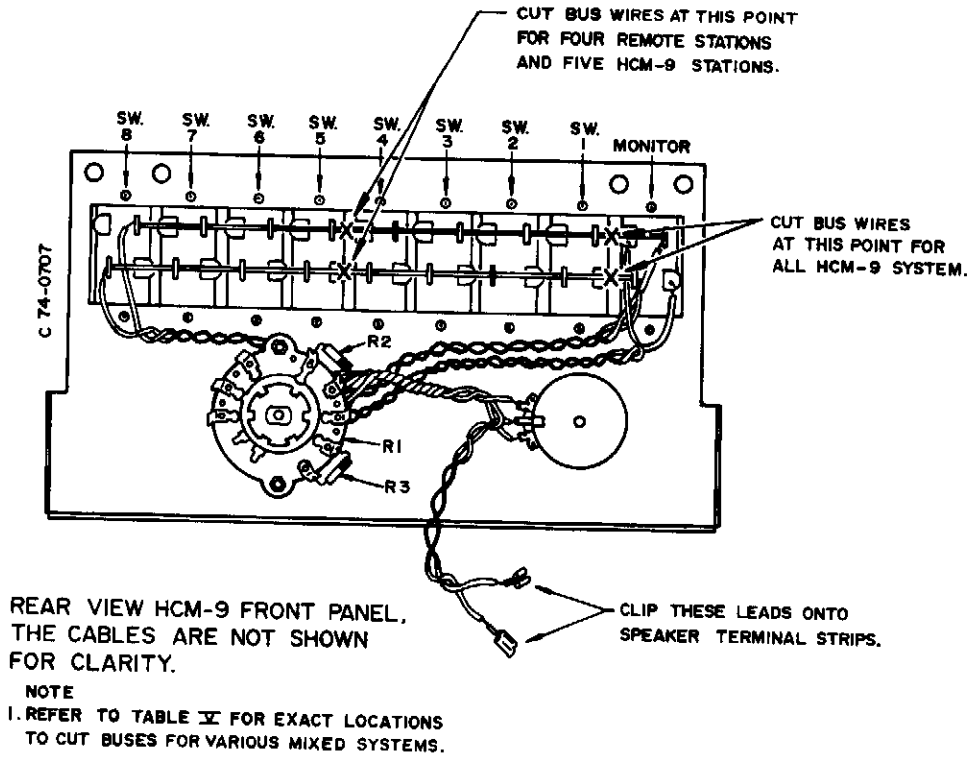
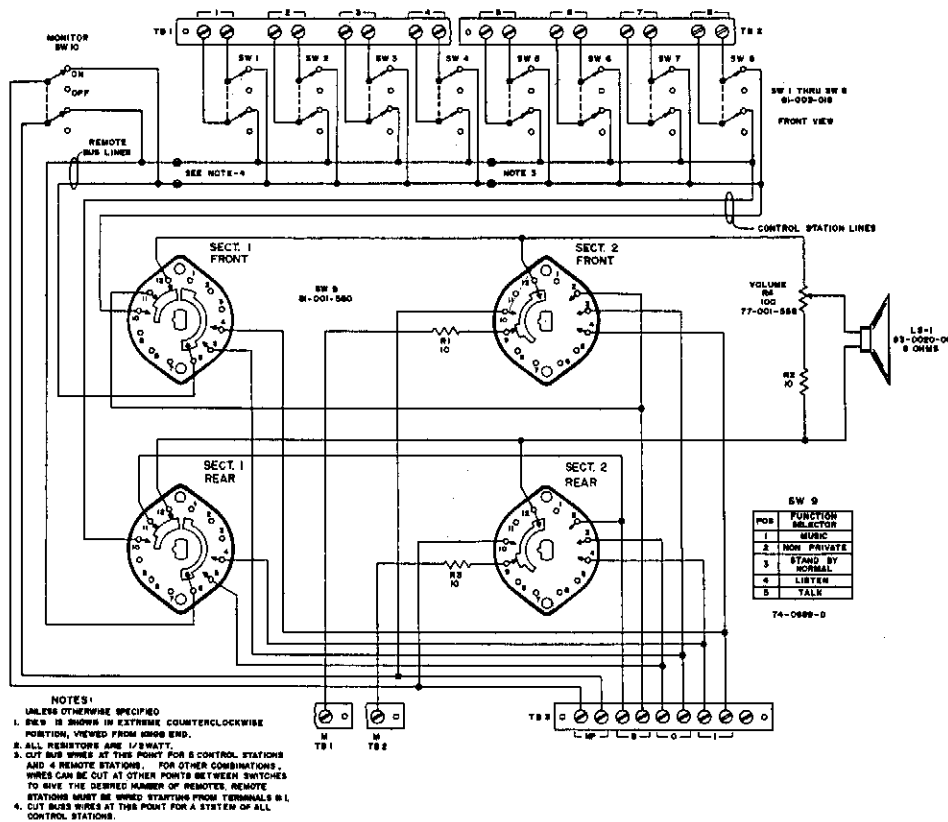

Figure 5 - Model HCM-9 Control Station, Modification Procedure
Figure 8 - Model HCM-9 Control Station, Schematic Diagram
b. STAGGERED CONNECTIONS: Terminals "B" are the connections for the "break-in" line and these terminals are used at every control station. Terminals B are connected to the line for the given control station (see figure 5 and refer to Table III). For example, at control station 5, the B terminals are connected to the twisted pair which goes to every other control station's terminals 5. Therefore when any other control station places the selector switch for station 5 in the ON position, connection is made to the control station 5 "break-in" line.
c. MODIFICATIONS TO HCM-9'S: Figure 5 shows the location of the remote bus lines on the rear of the units. The modification consists merely of cutting the bus wires at the proper point. Figure 5 shows the location of the point, as does the schematic diagram figure 8 (note 4).
c. **MODIFICATIONS OF HCM-9'S:** Figure 5 shows the location of the remote bus lines on the rear of the units. The modification consists merely of cutting the bus wires at the proper point. Figure 5 shows the location of the point; Figure 8 is the schematic diagram of the unit.
*Shown as note 3 on HCM-9 schematic, Figure 8.
Sometimes complaints are received that there is no privacy when the HCM-9 is in the STAND-BY NORMAL and LISTEN positions. This may be due to a failure to carry out the modification described in paragraph c on page 6 or on page 8. The bus wires must be cut as shown in figure 5 and in Table V.